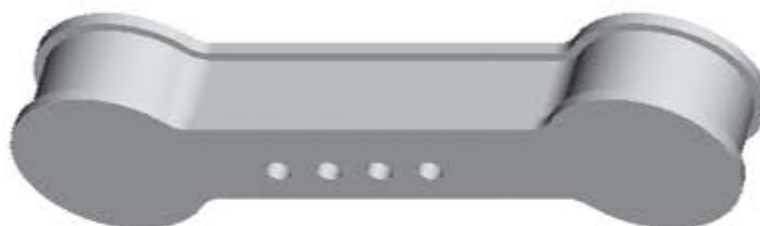

Figure 14–45
2. The model shown in Figure 14–45 has a pattern of extruded cuts created in one direction. What is the number of pattern occurrences that are defined in the dialog box?